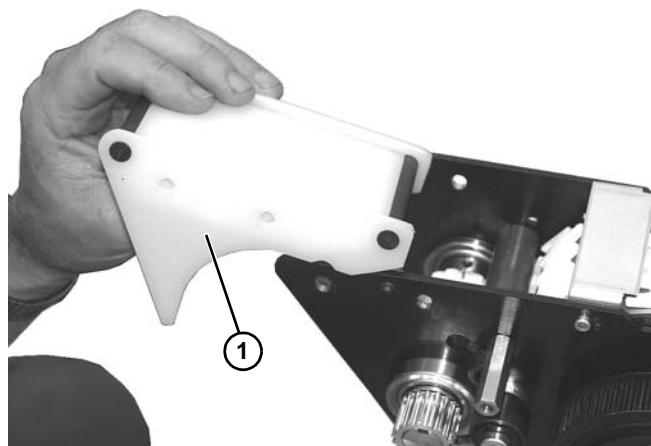

Figure 164
10. Remove wear bar assembly (**Figure 164, item 1**) from power transfer.